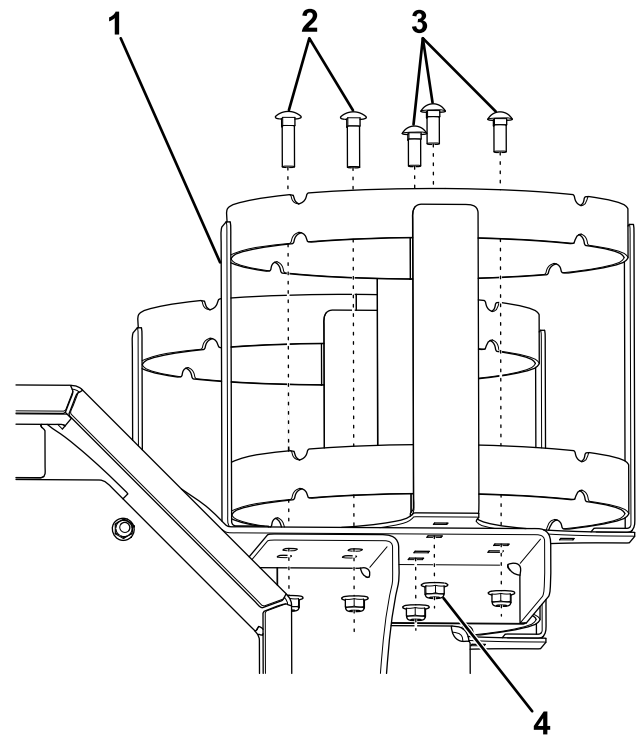

Figure 4
9. Secure the bucket holder to the brackets using 3 short bolts, 2 long bolts, and 5 flange nuts (Figure 4).